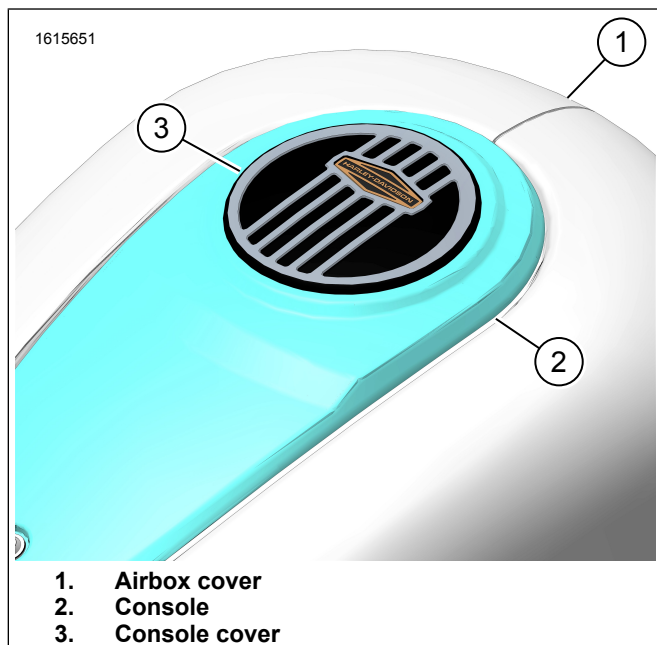

Figure 2. Console Trim Installed
2. See Figure 2. Test fit console cover (3).
3. Clean console (2) area with isopropyl alcohol. Dry with a lint free cloth.
1. See Figure 2. Remove adhesive backing from console cover (3).
2. Install console cover (3) using marks made earlier as a guide.